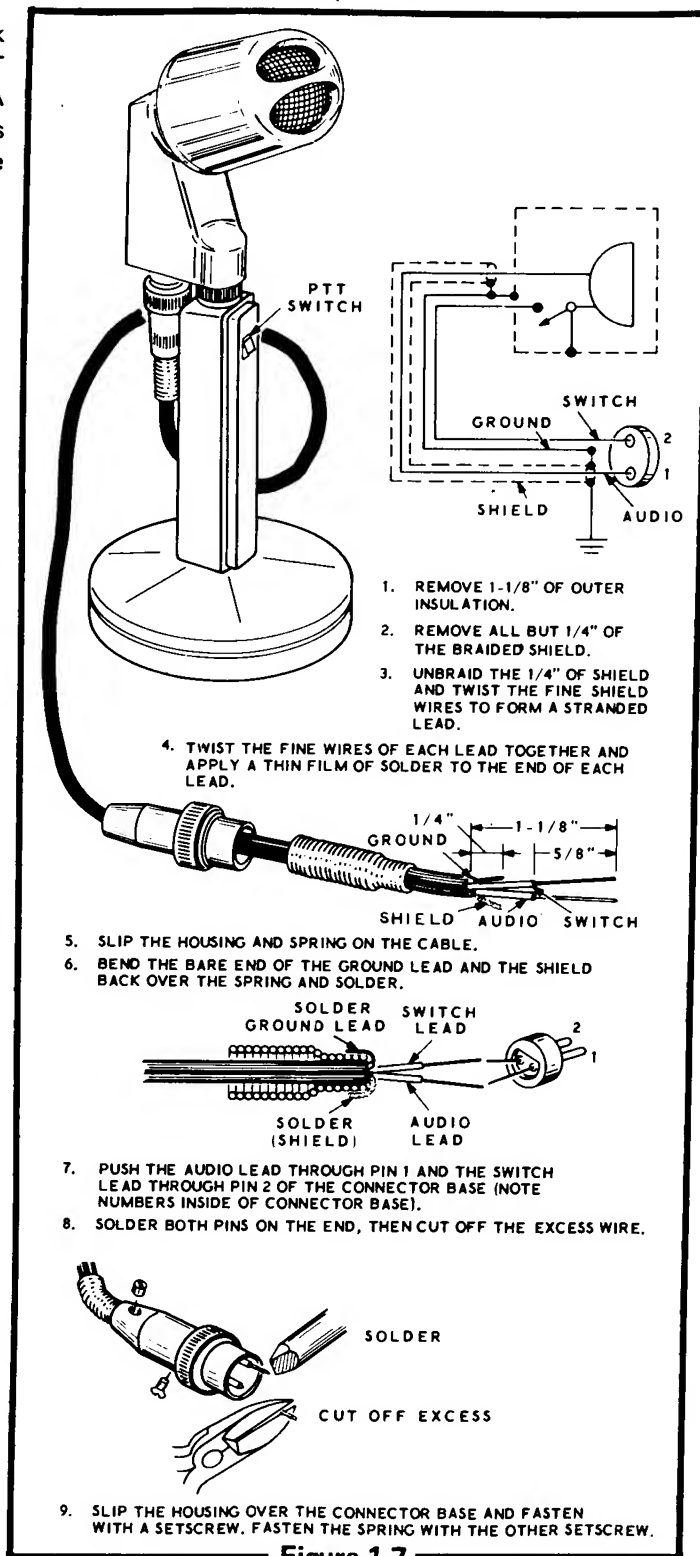

Figure 1-7
- () Perform the numbered steps in Figure 1-7.
If you use a microphone different than the one shown, connect the lead from the microphone element to pin 1 of the connector. If the microphone has a PTT switch, connect this lead to pin 2. Shield wires, to complete the ground side of the circuit, should be soldered to the spring as shown in Figure 1-7.